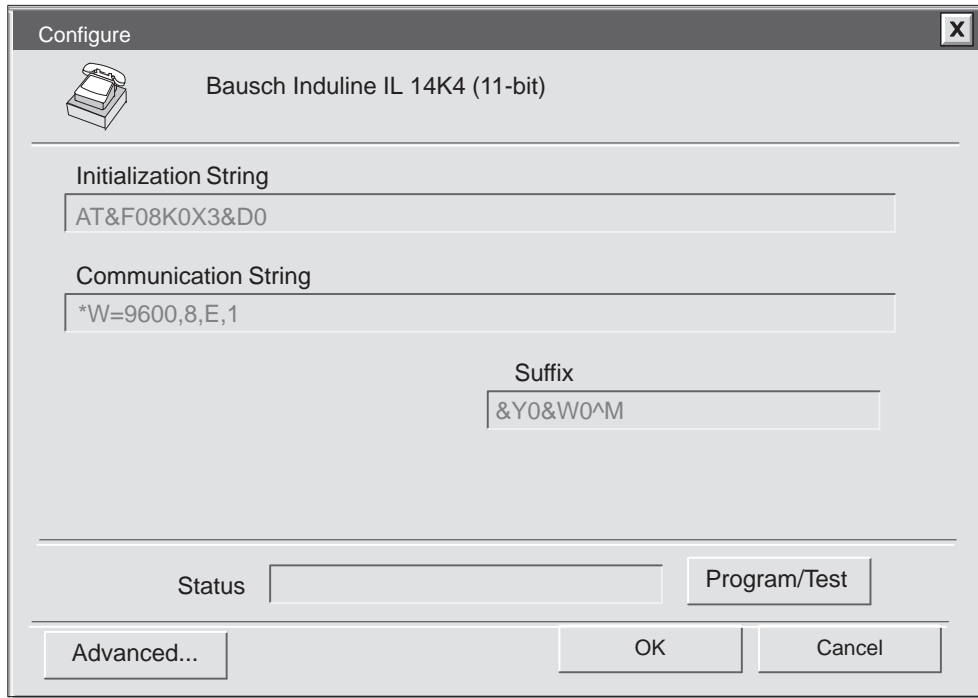

Figure 7-15 Remote Modem Configuration
4. The Configure dialog box appears (Figure 7-15). If you are using a predefined modem there are no fields that you can edit. If you are not using a predefined modem, you must enter the AT command string for your modem. Refer to the documentation for your modem.